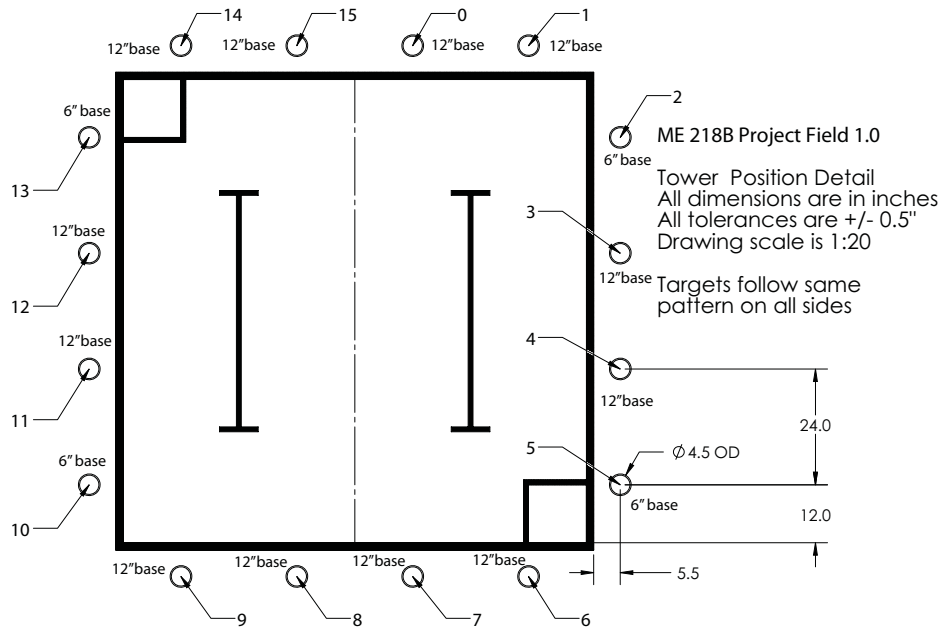

Fig. 2 Top View Positions of the Goal Columns
- Each of the numbered circles in Fig. 2, below, is a goal column
- The goal columns will consist of a 4.5” diameter, cylinder rigidly mounted just outside the perimeter wall of the playing field. The height of the column will be either 6” or 12”, as indicated in Fig. 2.
- The Target Commander will specify which target is currently active by indicating the Goal number as shown in Fig. 2